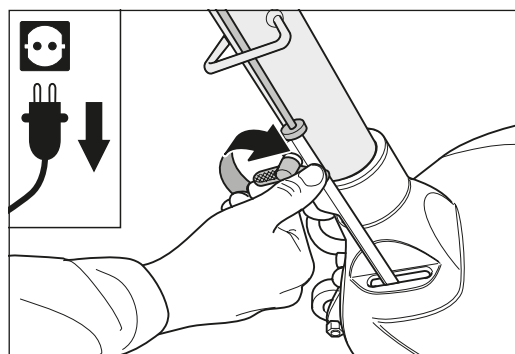
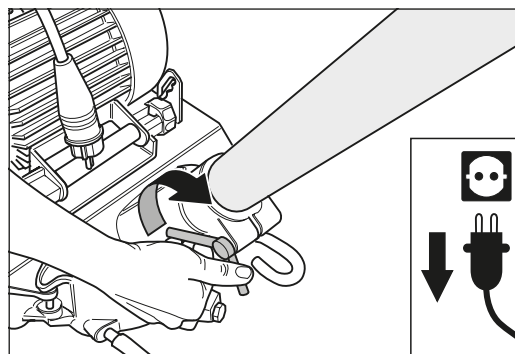

Fig. 9 After inserting the guide tube, carefully tighten the wing screw at the lower rod.
Fig. 10 After inserting the guide tube, carefully tighten the wing nut at the machine housing.
- 4 Carefully tighten the wing screw at the lower rod (fig. 9) and the wing nut at the machine housing (fig. 10).